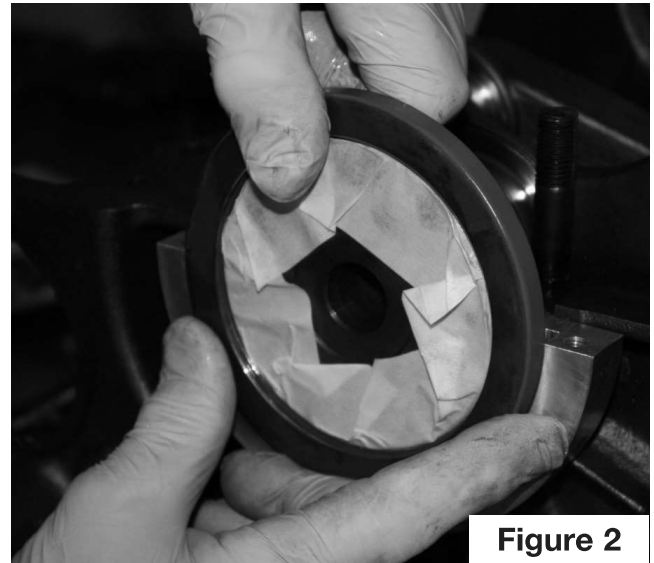

Figure 2
- 2) (Figure 2) Hold the seal with the lip (open part) of the seal facing forward (toward the engine). Carefully work the new oil seal over the Speedi-Sleeve or flange. When the seal is on the flange, make sure the rubber portion has not rolled back onto itself. Remove the masking tape (if used).